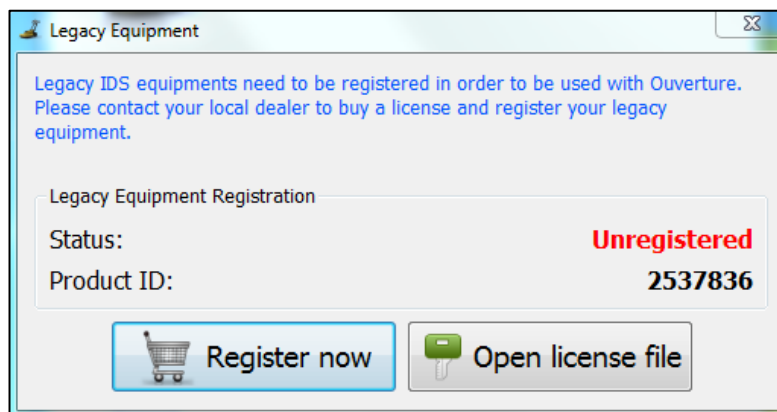

Fig. 2.10 - Legacy Equipment
-  Legacy Equipment: this command is very important only for users who use Ouverture with a Detector Duo System. The first time that you press this button, Ouverture, in order to function, requests software license (Fig. 2.10).